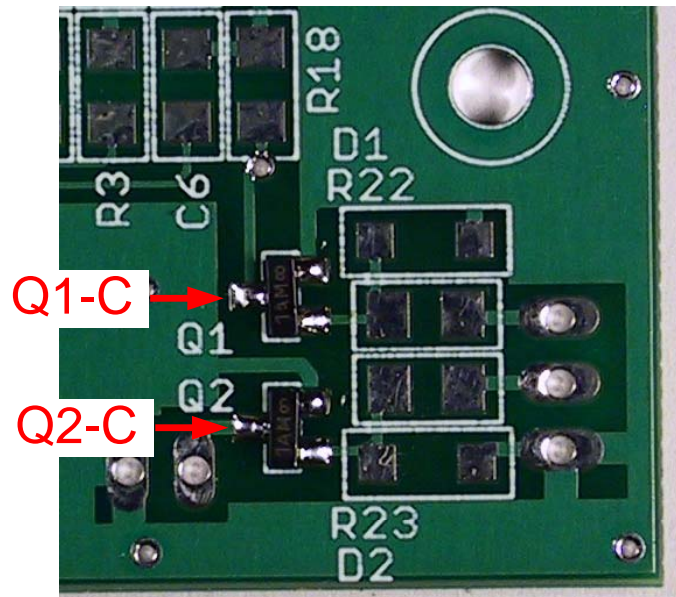

Figure 4. Q1 and Q2 Locations
- ☐ Remove the strip containing Q1 and Q2 from Bag 1. These are MMBT3904 transistors and are marked either 1A, or 1AM. Refer to **Figure 4** for placement.